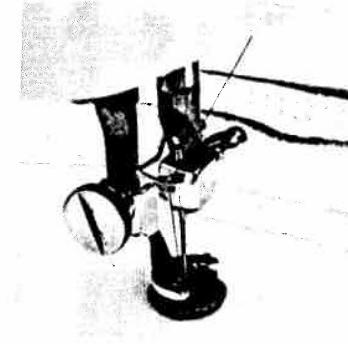

Fig. 28
1. Remove hinged presser foot and attach button sewing foot. (See Fig. 28, 29 & 30)